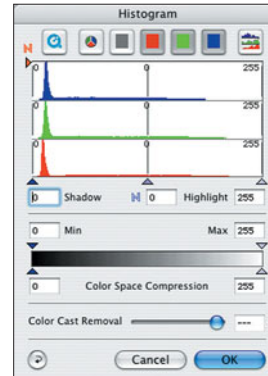

Figure 7.52
1. Confirm that no image data is being clipped during the scanning process (see Figure 7.52).